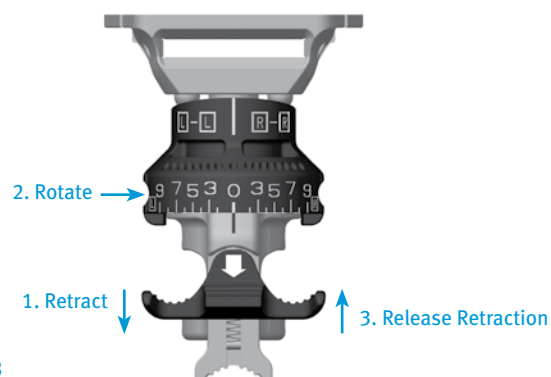

Fig. 123
- Retract the spring-loaded button on the top of the Femoral Valgus Alignment Guide and rotate the valgus adjustment dial to the desired valgus angle and release the button to lock the valgus angle from 0° to 9°, ensuring that the proper left or right setting is attained (**Fig. 123**).